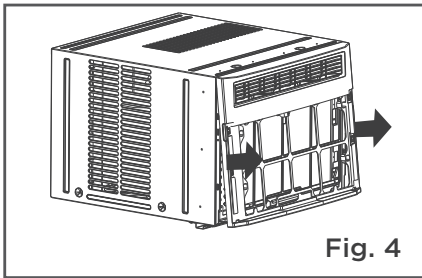
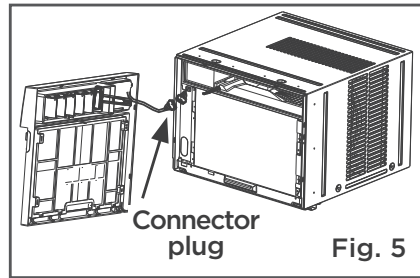

Fig. 4
Fig. 5
4. Pry away front from cabinet sides as shown in Fig. 4 and then disconnect the connector plug of the display panel from the unit (see Fig. 5).